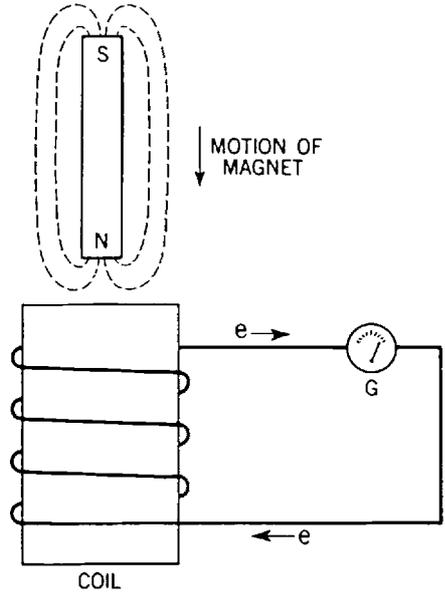

Fig. 32-1. The magnet is plunged into the coil of wire. An electric current is induced in the coil.
Connect the ends of the galvanometer to a coil of about 50 turns of wire wound in the shape of a cylinder about two inches in diameter. Now plunge the north end of a permanent magnet into the center of the coil (Fig. 32-1). Observe that the pointer is deflected to the right, showing that an electric current was set flowing for a moment in the coil and galvanometer.
**Lenz's Law.** There is another important principle in connection with induced currents. Turn back to Figure 32-1. As the north pole of the magnet enters the coil, a current will be induced in this coil. You know already that when a current flows through a conductor, it sets up a magnetic field around this conductor. Thus, the coil becomes an electromagnet. The induced current in this coil is
But in the case of induced electromotive force generated as shown in Figures 32-1 and 32-2, the current starts from zero (magnet outside the coil and at rest) and builds up in one direction (as the magnet enters the coil). The electromotive force dies down to zero again (magnet at rest inside the coil), then builds up in the opposite direction (as the magnet is being removed from the coil), and dies down to zero again (magnet at rest outside the coil).